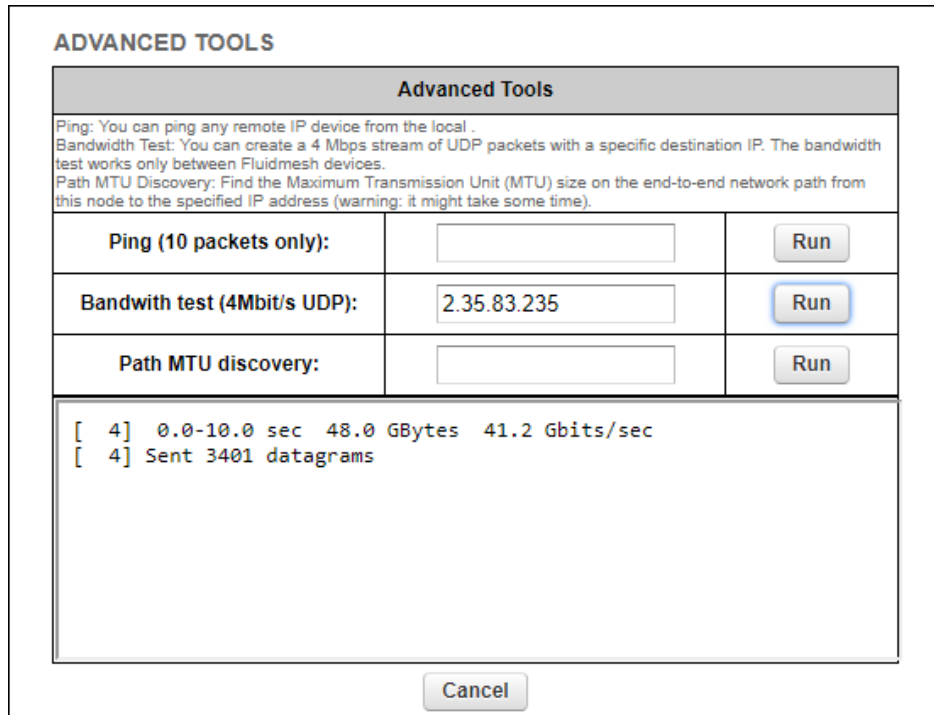

Figure 26. Advanced Tools window (Bandwidth test tool)
2. Enter the IP address of the other unit in the **Bandwidth test (4Mbit/s UDP):** field (Figure 26 (page 69)).